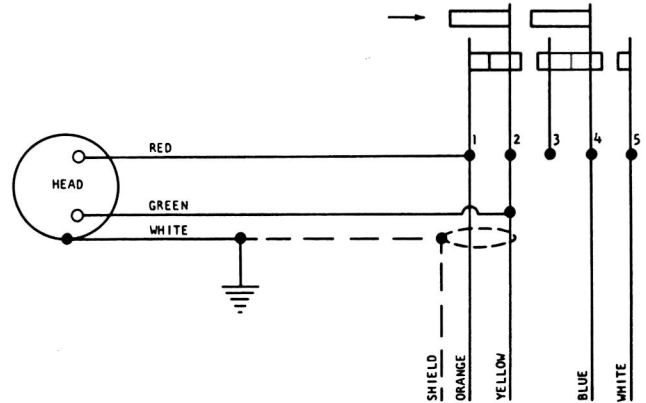
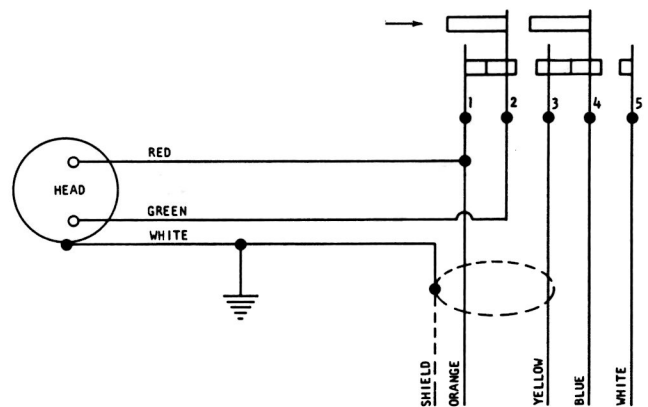

Figure 2 - Wiring Diagram, Lo-Z
Figure 3 - Wiring Diagram
A. The model 619 (Lo-Z) is shipped with switch connections as shown in Figure 2. If the unit is to be used in applications such as multiple microphone paging installations (where several units are connected in parallel to a single microphone input) connections should be revised as shown in Figure 3.